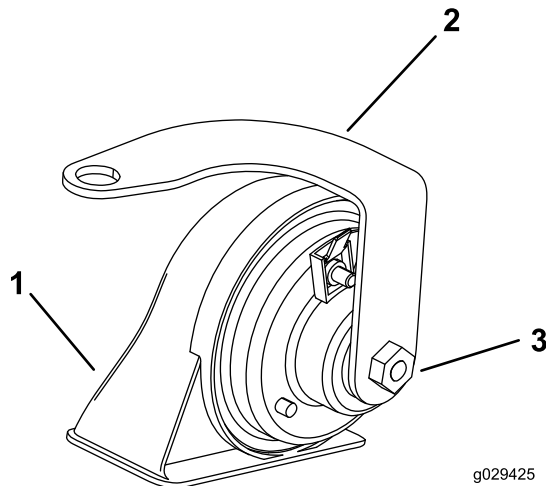

Figure 8
3. Install the horn onto the mounting bracket and torque to 7.73 to 12.8 N-m (5.7 to 9.5 ft-lb) (Figure 8).